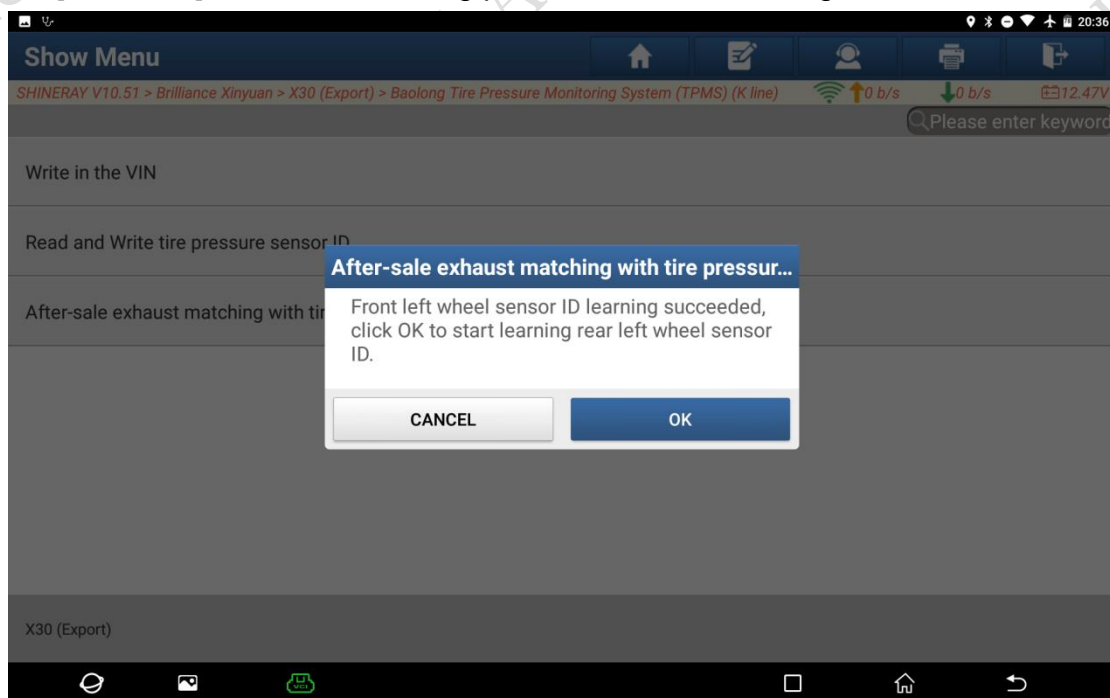

Figure 11
11. During the process, check whether the sensor ID has been learned. If it is completed, click [OK] to continue learning the RL wheel sensor ID. Click [CANCEL] to exit the learning process, as shown in Figure 11.